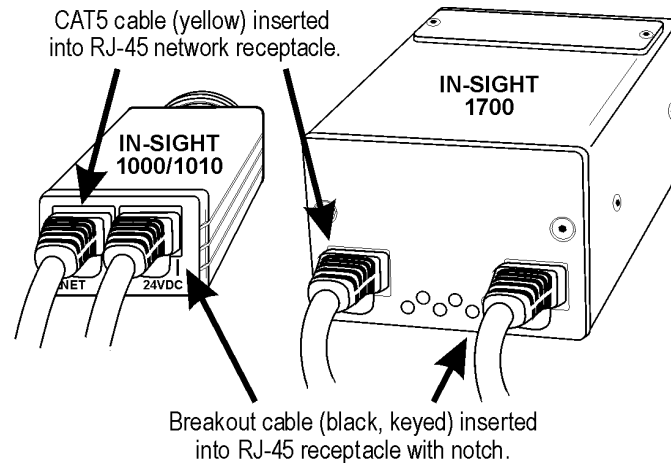

Figure 7. Connecting Cables to In-Sight Systems
- a. Insert the end of the Breakout Module cable with the RJ-45 connector into the Breakout receptacle (Figure 7).